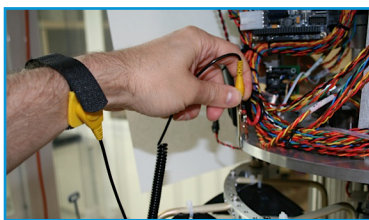

Figure 4-1: ESD wrist strap with attachment clip
2. Connect the negative (-) leads from the ESP power cord and from the charger to the negative (-) lead on the battery. See Figure 4-1.